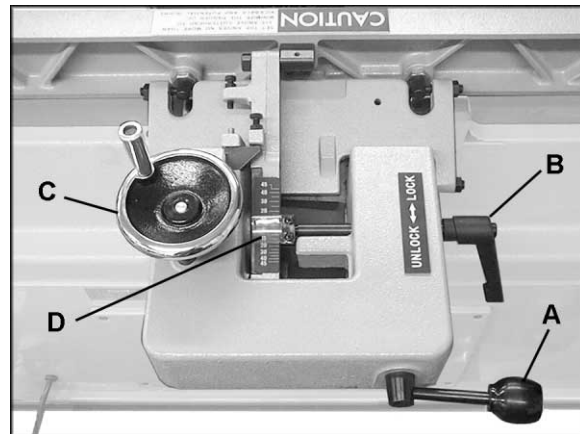
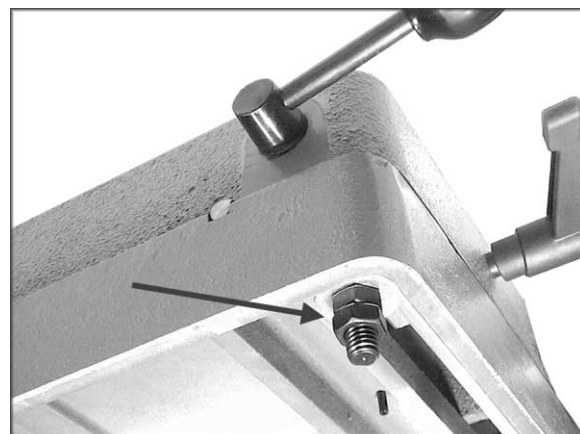

Figure 14
Figure 15
1. Loosen locking handle (A, Figure 14).
2. Push the entire fence assembly to the desired position, and tighten locking handle (A, Figure 14). A plastic buffer piece is mounted to the front of the fence to prevent scratching the table when the fence is moved.
NOTE: If the lock handle (A, Figure 14) is in an inconvenient position, it can be adjusted. Loosen the two hex nuts underneath the slide bracket (Figure 15). Flip the handle to the desired position, and re-tighten the hex nuts. Do not overtighten the hex nuts, as this can make the fence difficult to move on the slide bracket.
1. Loosen locking handle (B, Figure 14).
2. Rotate handwheel (C, Figure 14) until the desired angle is indicated on the scale (D, Figure 14). Or you can place your beveled workpiece on the table and against the fence, and rotate the handwheel (C, Figure 14) until the angle of the fence matches the bevel of your workpiece.
3. Tighten locking handle (B, Figure 14).
To remove the fence assembly from the machine, remove the two hex nuts and one flat washer that secure it to the slide bracket (see Figure 15). Lift the fence straight up and off the Jointer.